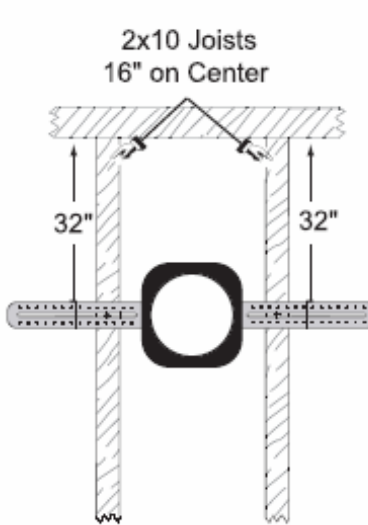

Figure 3
NOTE: Please have dry-wall screws and or nails/staples handy for installation. Figures 3 – 7 are on page 2.
- C. Adjust the bracket so that the other side aligns with the other marking and install a screw through the speaker brackets adjustment channel. **(See Figure 3)**